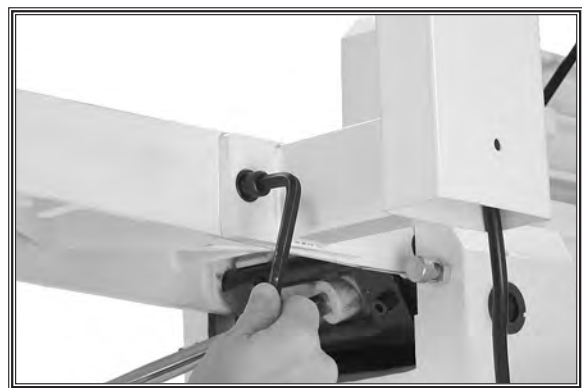

Figure 23. Attaching pedestal switch to the back of the jointer.
30. Use the two M10-1.5 x 25 cap screws, 10mm lock washers, and 10mm flat washers to attach the pedestal switch to the back of the jointer, as shown in **Figure 23**, then connect it to the motor cord.